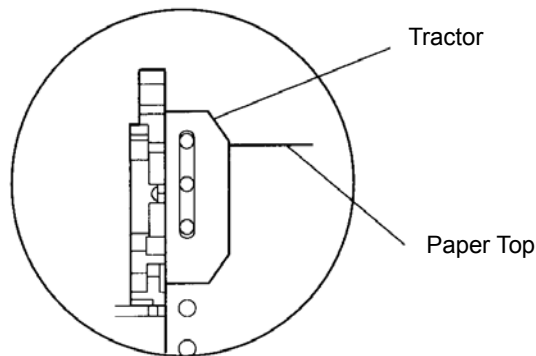

Figure 3-8 Setting paper on the sprocket pins
**When paper is loaded into the tractor, please set the top of paper to the edge of the tractor paper guide as shown in Figure 3-8.**